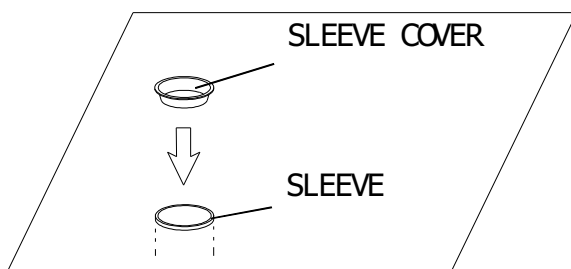

FIG. 8
12. If optional sleeves are purchased, use them for easy removal of posts for resurfacing, maintenance, posts repair or replacement, and alternate uses of the court. During the off season or when winterizing, it is best to remove net posts and plug the sleeves with sleeve covers to prevent moisture and dirt from falling in. (FIG. 8)